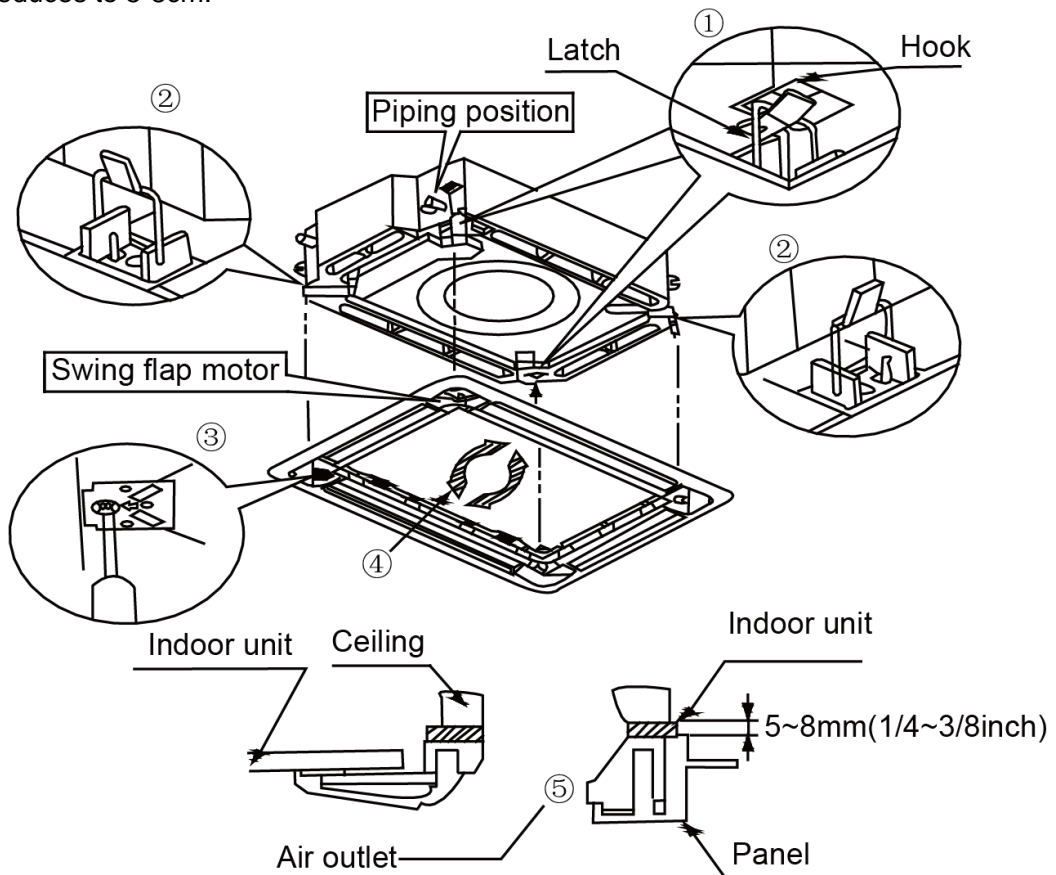

Figure 3-1-45
(2) Place the panel at the unit, and latch the hooks beside and opposite the swing flap motor.
(3) Latch other two hooks.
(4) Tighten four hexagonal screws under the latches about 15mm.
(5) Adjust the panel along the direction indicated by the arrow as shown in Figure 3-1-45.
(6) Tighten the screws until the thickness of the sealing material between the panel and the indoor unit reduces to 5-8mm.